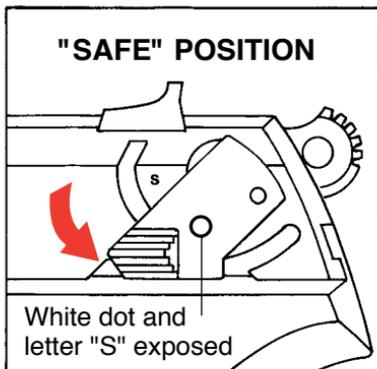

FIGURE 1
The pistol can and should be loaded and unloaded with the safety engaged in its “safe” position (lever fully down, white dot and the letter “S” exposed). **The safety should be in its “safe” position at all times except when the user is deliberately positioned to fire at a selected target.** See Figures 1 and 2, below, which illustrate the two positions of the safety.
2. **Move either the right- or left-hand safety lever fully downward to its “safe” position so that the letter “S” and the white dot are fully exposed.** (See Figures 1 and 2 on page 12.)
4. For the 9mm P95PR pistols, place fifteen (15) or fewer 9mm x 19 Parabellum cartridges into the magazine from the top. **(NOTE:** Some P95PR pistols are shipped with ten-round magazines to meet state or local magazine capacity restrictions. For those pistols, load ten (10) or fewer cartridges.)
The trigger is inoperable when the safety is fully engaged in its “safe” position (lever fully down, white dot and letter “S” exposed; see Figure 1 on page 12).
7. If the pistol is not to be fired immediately, the safety should remain in its “safe” position (see Figure 1, p. 12).
1. The muzzle of the pistol must be pointing in a safe direction at all times, and fingers should be outside of the trigger guard. Put the safety in its “safe” position (see Figure 1 on page 12) by rotating the safety fully downward until the letter “S” is fully exposed and the white dot shows. The safety can be engaged whether the pistol is cocked or not.